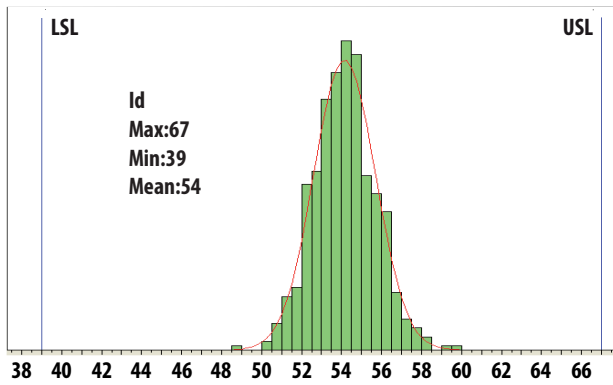

Figure 1. Id @ 900MHz, 5V, 54mA
1. Measurements at 900 MHz obtained using demo board described in Figure 1.